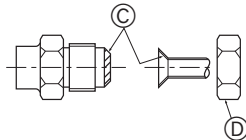

Fig. 4-2
Ⓐ (Fig. 4-2) (mm [inch])
Ⓑ (Fig. 4-2)
4.2. Connecting pipes (Fig. 4-2)